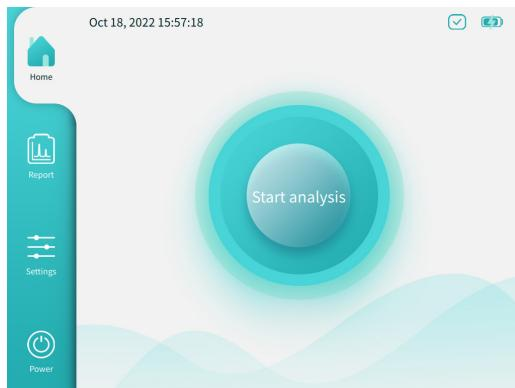

Figure 3.5 Sample analysis
3. After the system automatically identifies the cartridge, the operation area is displayed as [Start analysis] (Figure 3.5).